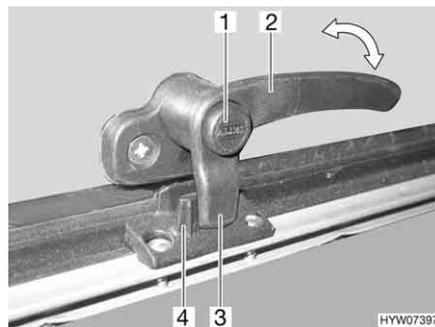
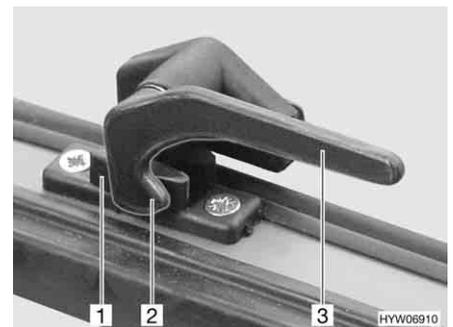

Fig. 56 Catch lever with safety knob in "closed" position
Fig. 57 Catch lever in "closed" position
- Press and hold the security button (Fig. 56,1), if present.
- Turn the catch lever (Fig. 56,2 or Fig. 57,3) a quarter turn towards the centre of the window.
- Turn the catch lever (Fig. 56,2 or Fig. 57,3) a quarter turn towards the window frame. The locking catch (Fig. 56,3 or Fig. 57,2) on the catch lever is entirely on the inner side of the window catch (Fig. 56,4 or Fig. 57,1).
- "Firmly closed" (Fig. 56 and Fig. 57)